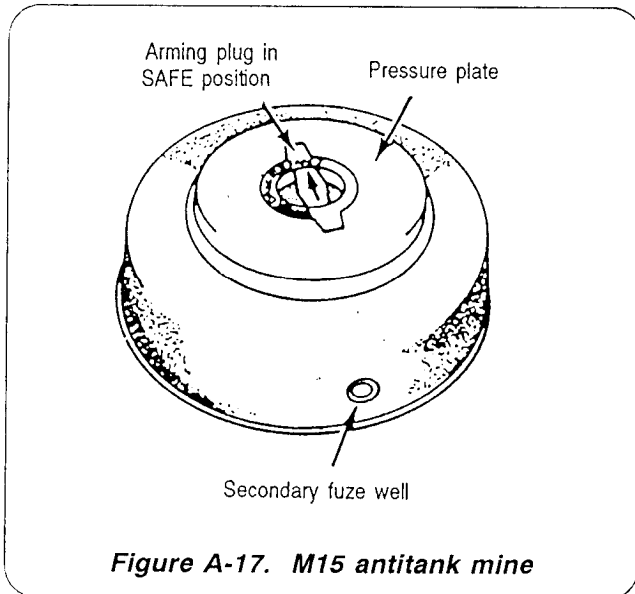

Figure A-17. M15 antitank mine
- b. Use the M20 arming wrench to unscrew and remove the arming plug from the mine (Figure A- 17).